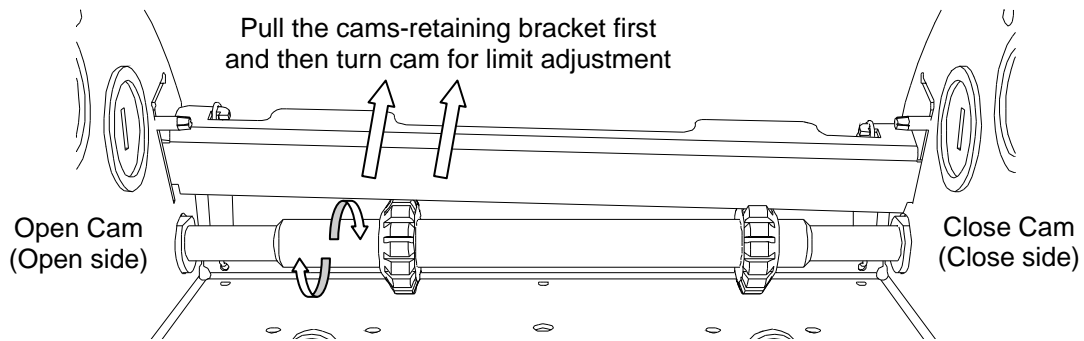

Figure 15 Adjusting the limit cams
3. Pull the cams-retaining bracket from the Open side and rotate manually the Open cam (Figure 15) until the cam activates the limit switch sufficiently so as to hear the switch and the OPEN limit light is ON.
6. Pull the cams-retaining bracket from the Close side and rotate manually the Close cam (Figure 15) until the cam activates the Close limit switch sufficiently so as to hear the switch click the CLOSE limit light is ON.